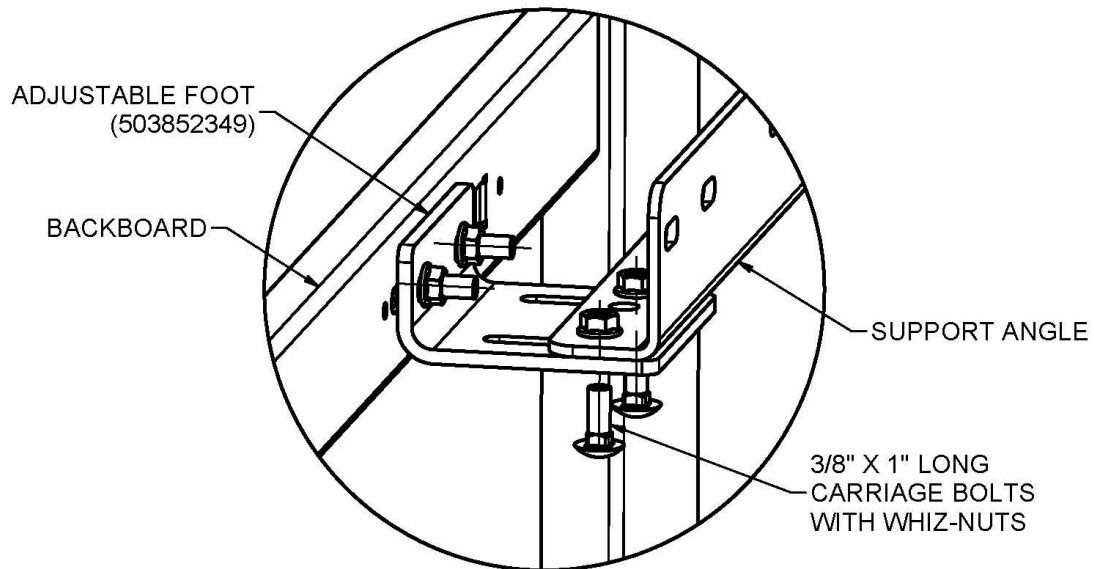

FIGURE 1: use for: 1301B, 1270B, 1260B, 1272B, 1401B, 1370B, AFRG48
6.) There are several ways to mount the boards to the height adjuster using the backboard angles and the adjustable feet. See figures 1, 2, 3 and 4. Reference board numbers under each illustration.